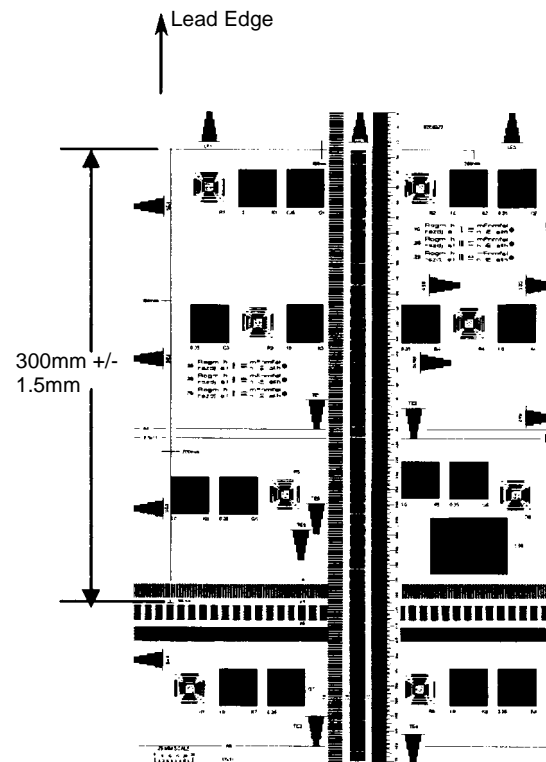

Figure 2 Checking Vertical Magnification
4. Check vertical magnification (Figure 2):